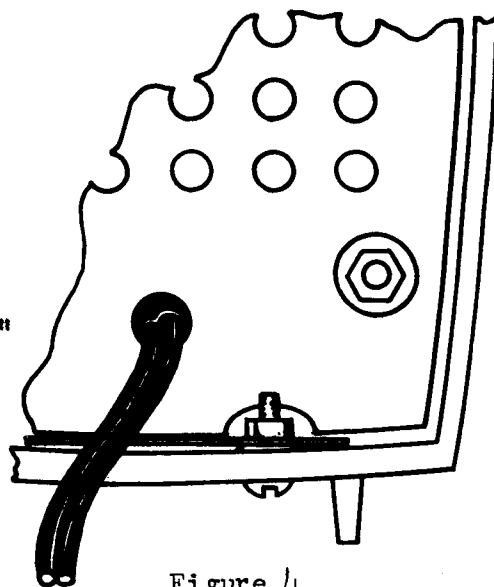

Figure 4
- ( ) Secure the chassis in the cabinet with two 3-56 X 3/8" screws and nuts inserted through the bottom of the cabinet and chassis bracket Q. See Figure 4.